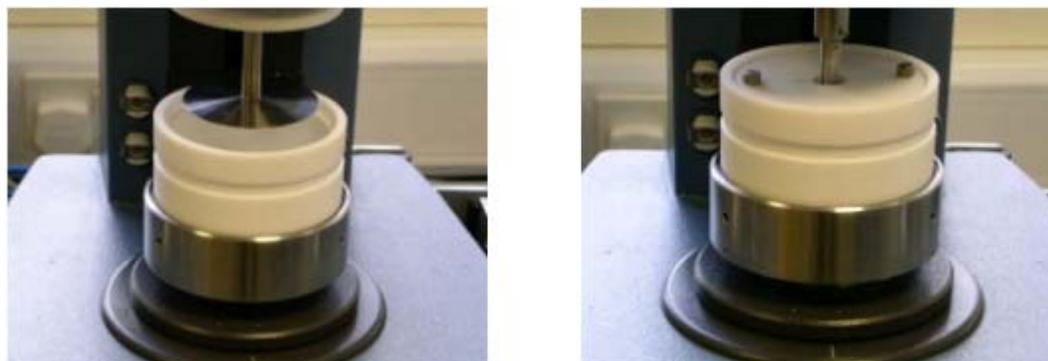

Figure 9.3
5. Lift the lid and fix in the upper position, as shown in Figure 9.3, by passing the slots in the lid over the lugs attached to the geometry shaft, and rotating the lid.
2. Lower the lid to sit in the groove on top of the cup as shown in Figure 9.3 on the previous page.